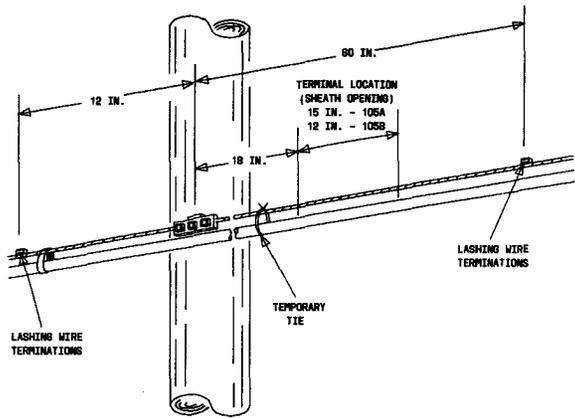

Fig. 7—Preferred Location at Right Side of Pole (Viewed From Cable Side)
3.01 Locations for strand mounting the 105-type cable terminals are shown in Fig. 7, 8, 9, 10, 11, 12, 13, and 14.